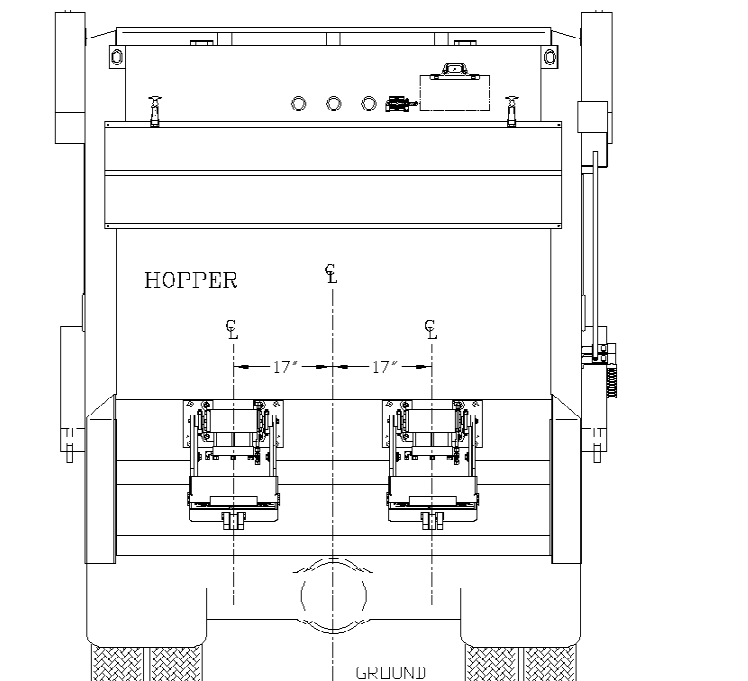

Figure I-1
3. Position the lifter(s) on the sill of the truck per *figure I-1* and mounting height drawing (*Appendix A*) and tack weld in place. If using a mounting plate kit for bolt on applications, tack weld the mounting plate in place and attach the lifter to the mounting plate using the 1/2" studs. (*tack weld only at this time so that adjustments can be made if necessary.*).